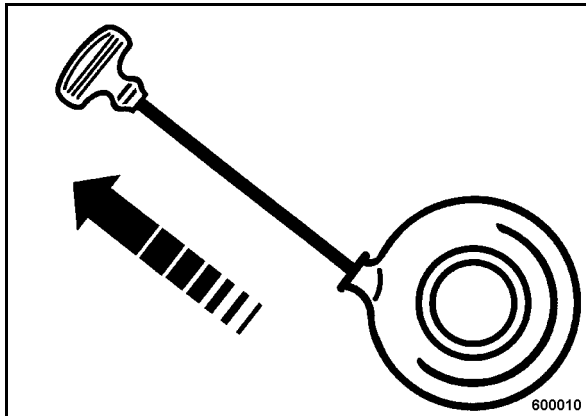

Fig. 20
- Pull the rope by the starter handle quickly and powerful as far out as possible (Fig. 20).